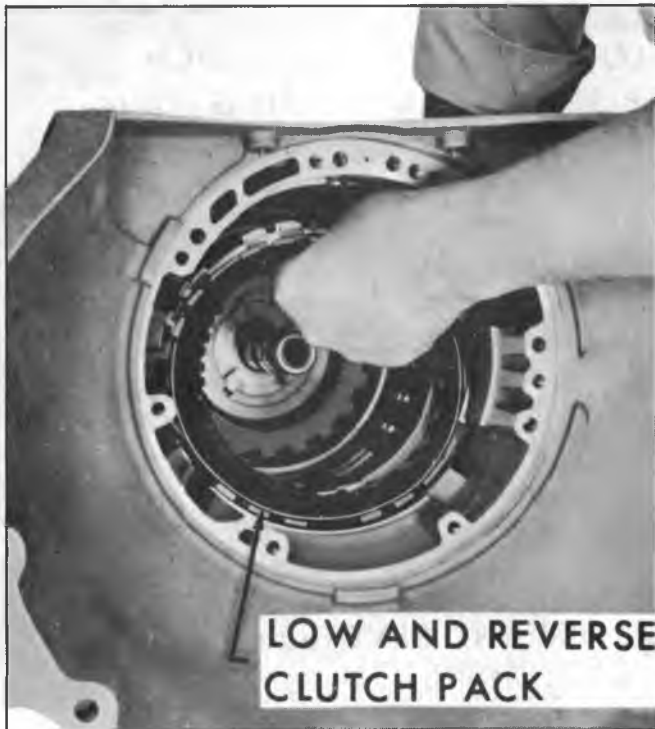

Fig. 41M--Removing Low and Reverse Clutch Pack
16. Remove low and reverse clutch faced plates and steel reaction plates (fig. 41M).